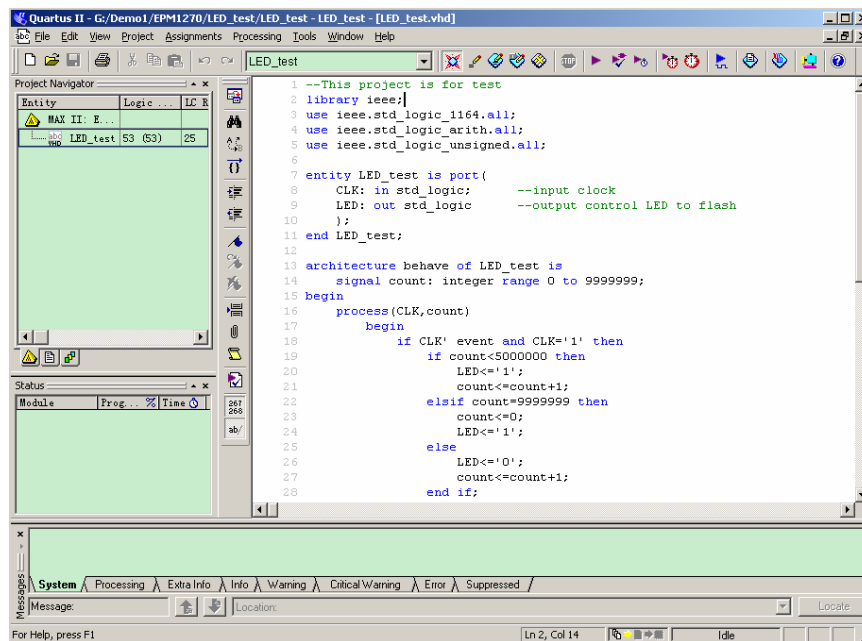

Figure 11 Altera Quartus II 8.1 user interface
- (1) Connect the CPLD JTAG connector on the board and computer with USB-Blaster by a USB cable.
- (2) Open the file folder, which located at `\CREEKROBOTBOARD\DEMO\EPM1270\LED_test`, and double click the project file `LED_test.qpf` as Figure 11 shows.